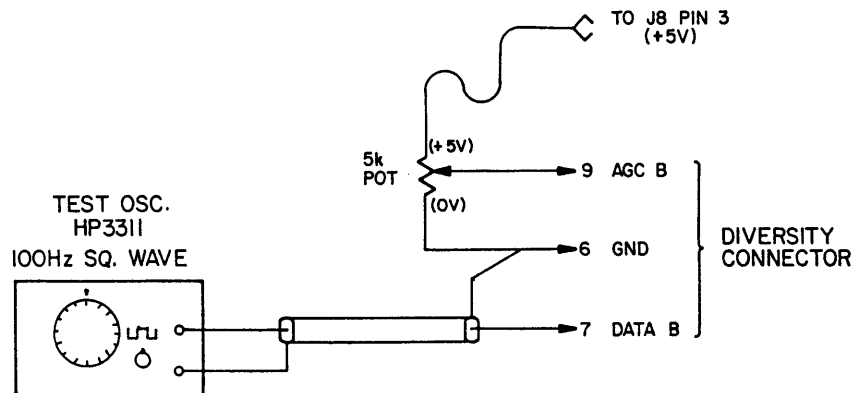

FIGURE 3.6 DIVERSITY TEST CONNECTIONS
Testing of the diversity section of the ST8000 will require a second digital signal source simulation of the AGC voltage of the second ST8000 normally used in a diversity system. In particular, a 5K linear taper potentiometer and a test oscillator capable of generating a TTL-level square wave at 100 Hz will be required in addition to the equipment listed in section 3.1.1. The test connection for testing the diversity equipment is shown in Figure 3.6 below.
(1) Connect the second test oscillator and 5K potentiometer as shown in Figure 3.6. The +5 VDC required for the potentiometer may be obtained by a temporary clip connection to pin 3 of J8. Be very careful to avoid shorting out this connection to adjacent pins of J3 or to any other components. The potentiometer is used to simulate the AGC voltage of a second ST8000 in a diversity system and the additional test oscillator simulates the data stream of that demodulator.
(2) Set the potentiometer so that zero volts DC is applied to pin 9 of J10 (DIVERSITY connector). Repeat the tests of the previous section to assure that the ST8000 is in the non-diversity mode of operation.
(3) Increase the potentiometer until +1.0 VDC is applied to J10-9. Observe TP33 with the oscilloscope and confirm that the signal is negative (DIV mode).
(4) Increase the potentiometer to +5V at J10-9 and adjust the DIVERSITY control until a negative voltage is observed at TP23. The "B" channel LED should now be ON and the "A" LED OFF.
(5) Connect the oscilloscope to TP31 and observe that the output of the second test oscillator is now available, rather than that from the original test oscillator. This will be easy to see since the frequencies of the two sources are different and the oscilloscope sweep is triggered from the first rather than the second test oscillator.
(6) Move the DIVERSITY control in a CCW direction (toward "A") until the "A" LED turns ON and the signal at TP31 is again that of the original test oscillator. The "A" and "B" LED's should NOT be both ON at the same time.
(7) Set the DIVERSITY control so that it is just barely on the "A" side of the switch point. Decrease the signal level into the ST8000 by 10 dB (to -20 dBm) and observe that the ST8000 switches to Channel B. Reset the input level to -10 dBm when done.
(8) Set the DIVERSITY control so that it is just barely on the "B" side of the switch point. Decrease the external potentiometer setting and observe that the ST8000 switches back to channel A. Repeat this procedure for several levels of input to the ST8000 (-10 to -60 dBm). Reset the input level to -10 dBm when done.